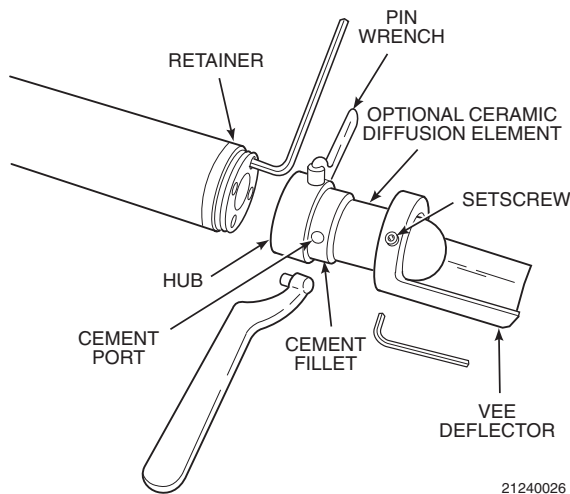

Figure 3-4. Removal of Optional Ceramic Diffuser and Vee Deflector
2. Loosen setscrews, Figure 3-4, using hex wrench from Probe Disassembly Kit, Table 4-1 and remove vee deflector. Inspect setscrews. If damaged, replace with stainless setscrews coated with anti-seize compound.
- a. Follow the cell removal procedure in paragraph 3.3, steps a, b, c, and d. Using heat resistant gloves and clothing, remove cover setscrew (24, Figure 1-1) and junction box lid (23). Squeezing tabs on hose clamps, remove hoses from inner probe assembly, Figure 3-4. Remove 4 screws which secure the inner probe assembly to the junction box. Disconnect all inner probe assembly wires from the terminal block (Figure 3-1). Pull inner probe assembly free from junction box. Set on bench and allow to cool to room temperature.